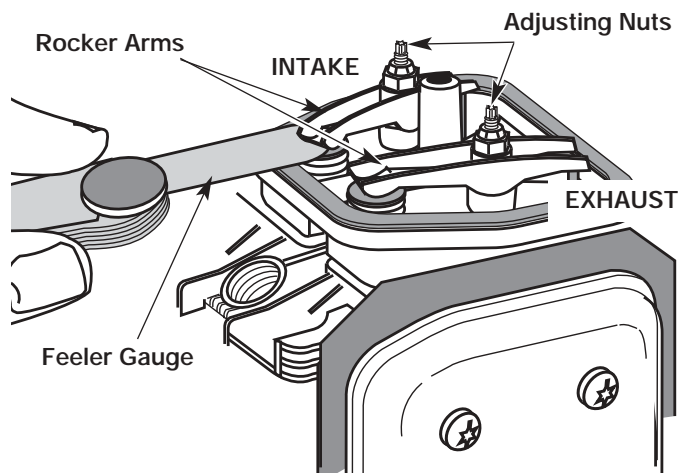

Fig. 71
9. Slide the feeler gauge between the rocker arm and the valve return spring. Measure the clearance between the valve stem and rocker arm (Fig. 71). Measure both the intake and exhaust valves.
The recommended clearance for both intake and exhaust is .003 – .006 in. (.076 – 0.152 mm). Use a standard automotive .005 in. (0.127 mm) feeler gauge. The feeler gauge should slide between the rocker arm and valve stem with a slight amount of resistance, without binding. See Figure 71 and 72.